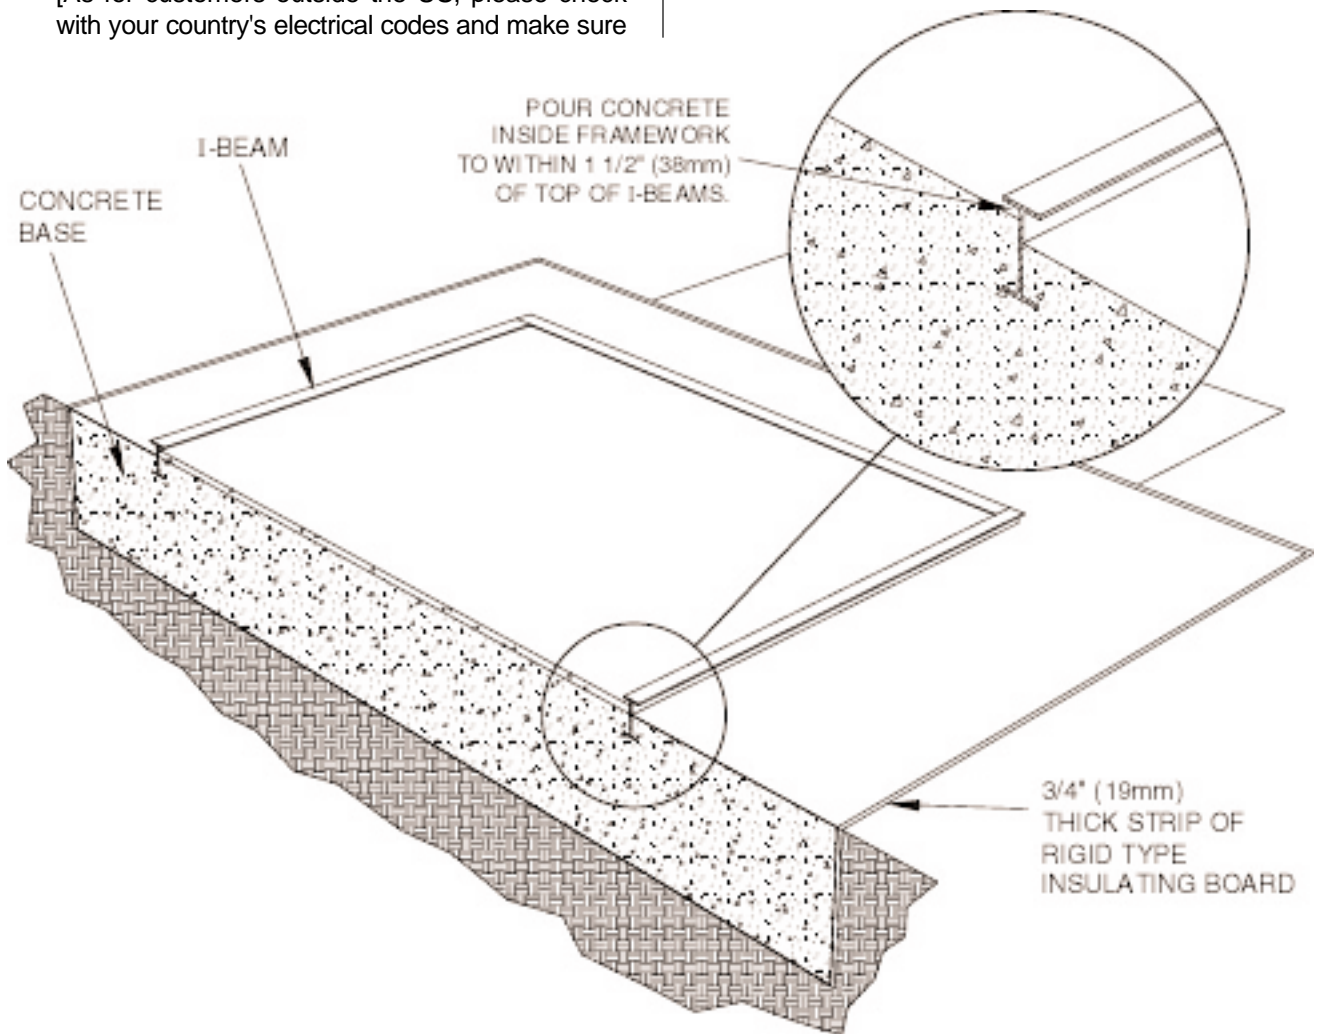

Figure 1.3 3-D VIEW.
13. Once the frame is properly located and leveled, pour concrete inside within 1 1/2" [38mm] of top of I-beam to allow for machine grouting. Do not pour the concrete up to the top of the beams. This also includes the area of concrete between the I-beams. Refer to figure 1.3.
3. Make sure a 3/4" [19mm] strip of insulation has been placed between the machine foundation and the plant floor to isolate the vibration to the machine foundation (figure 1.3).